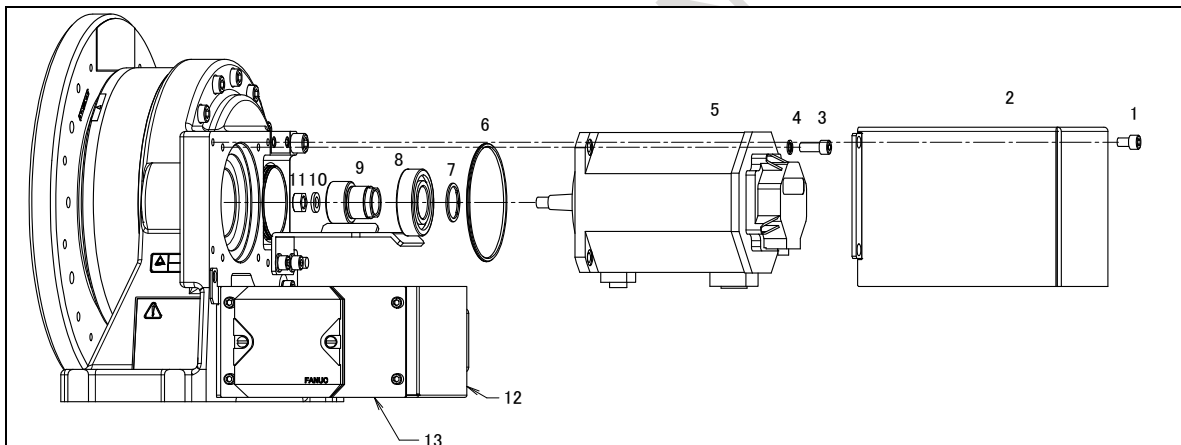

Fig. 6.1.1 (a) Replacing the motor
- 3 Remove the bolts (1) and remove the motor cover (2). (When the HARTING connector option or motor cover options is specified.)
- 4 After removing the battery box fixing plate while referencing Fig. 6.1.1 (b), remove the four M6 x 10 bolts and remove the connector box.
- 6 Remove the bolts (3), washers (4), and remove the motor (5).
- 7 Attach the gear (9) to a new motor, and reverse the removal steps to mount the motor. Replace the O-ring (6) with new ones, and put the new O-rings in place. See Fig. 6.1.1 (a) below table for the tightening torque and LOCTITE application.